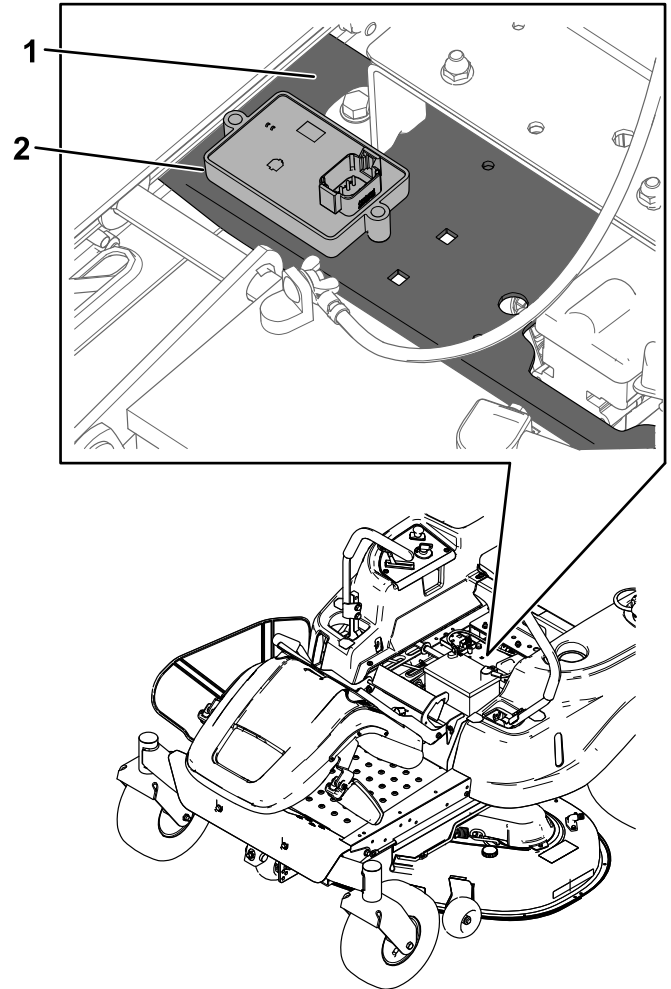

Figure 2
1. Place the sensor module on a flat surface on the right side of the crossmember frame, toward the control pane (Figure 2). Mark the locations of the 2 holes.